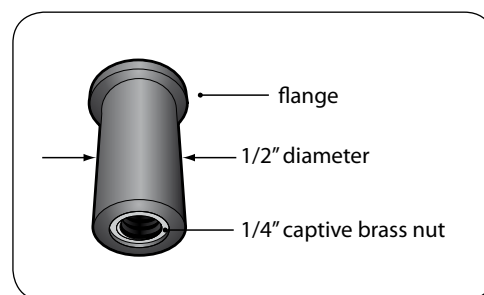

Fig. 8.3. Construction of a Well Nut
6. A Well-Nut is a bushing of tough neoprene rubber with a flange at the top end and a captive brass nut mounted within the bore at the bottom end (Fig. 8.3). Tightening a conventional machine bolt or screw engages the captive nut thereby causing the bushing to expand outwards. This fastens securely to thinner RV roofs by bulging up and against the bottom surface of the roof (Fig. 8.6). If used in a blind hole in a solid surface material, the rubber will expand outwards to create a secure fastening (Fig. 8.7). The neoprene and brass resist most environmental conditions. Additionally, the Well-Nut seals the drilled hole effectively against air and liquid leakage.